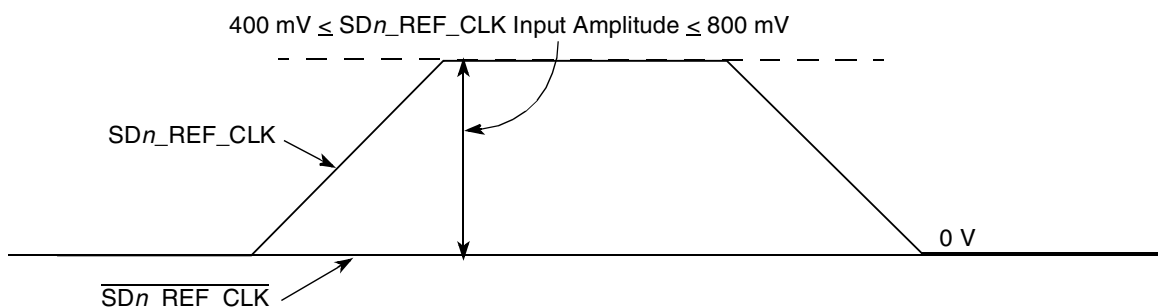

Figure 33. Single-Ended Reference Clock Input DC Requirements
- The $\overline{\text{SDn_REF_CLK}}$ input average voltage must be between 200 and 400 mV. Figure 33 shows the SerDes reference clock input requirement for single-ended signaling mode.